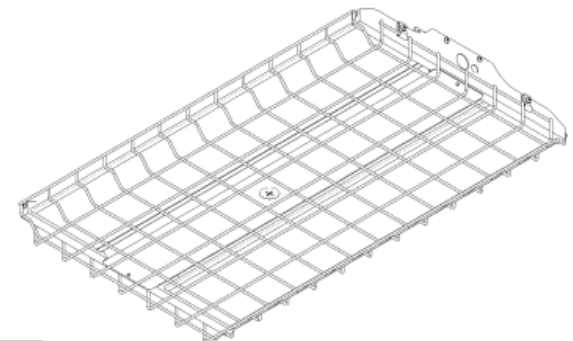

FIG. 20
- 3 The FLHC Fixture is now ready to be safely mounted onto various types of mounting methods and ready for wiring installation (Fig. 20).